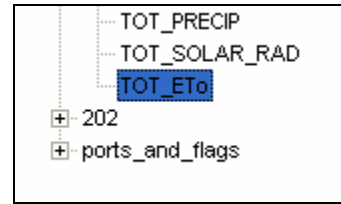

Figure 10.0.9
- By using the “+” symbols to the right of each folder search through them until you find a folder with a title similar to Total ETo (Figure 10.0.9).